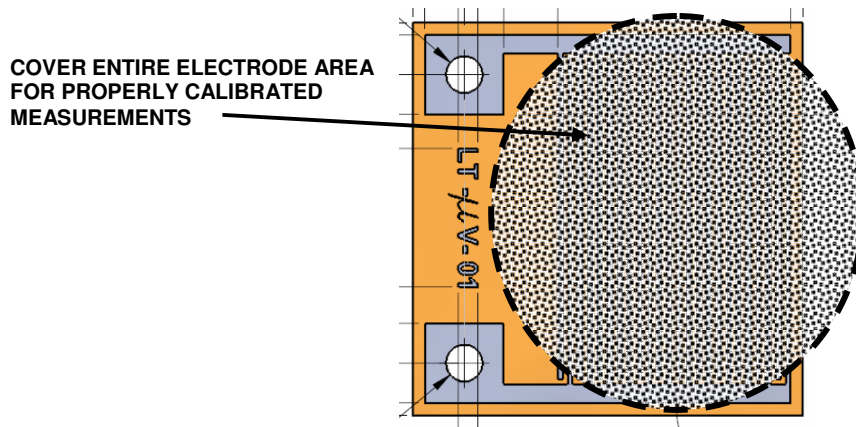

Figure 3
3. Place samples on the sensor, insuring good contact with the electrodes. Cover the entire electrode array as shown in Figure 3.